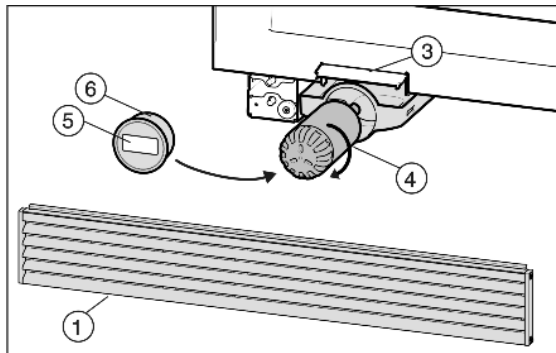

Fig. 7
- ▶ Insert the new filter Fig. 7 (4) and turn it about 100° clockwise as far as it will go.
- ▶ Place the cover Fig. 7 (6) on the filter.
- ▶ Write the date of the next filter replacement on the supplied adhesive label Fig. 7 (5) and affix it to the filter cover Fig. 7 (6).
- ▶ Push in the water filter carriage Fig. 7 (4).
- ▶ Close the filter change flap Fig. 7 (3).
- ▶ Fit the ventilation grid Fig. 7 (1) again and push down. It must close flush with the floor.